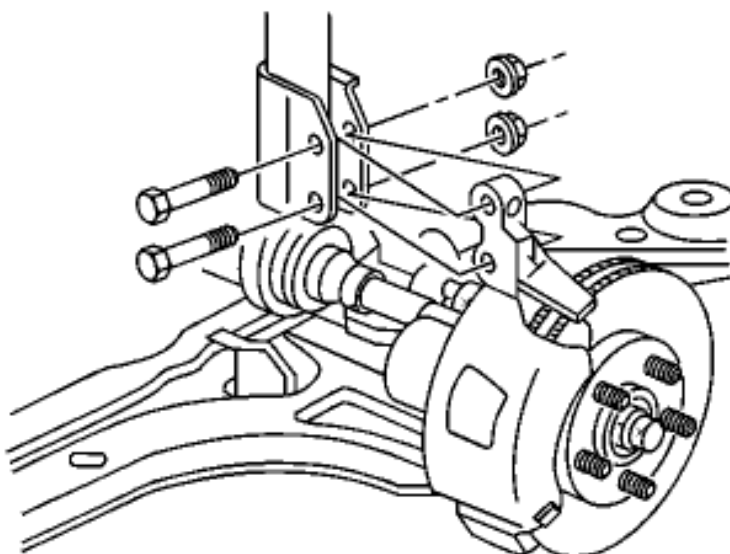

fig. 3
4. Unthread and remove the lower mounting bolts from the strut. The factory bolts have a spline shaft and may need to be tapped out of place. Care must be taken when doing so to not damage the threads (fig. 3). Vehicle manufacture cautions the reuse of these bolts only if the fasteners are free from rust or corrosion and develops 3 Nm (27 inch/lbs.) of torque or drag before nut is fully engaged on bolt threads. If the bolt/nut meets these requirements, the parts may be reused.
3. Lift the hub assembly and align the lower strut mounting tabs with the spindle and reinstall the previously removed bolts or new bolts if originals did not meet requirements in step 4 of REMOVING THE STRUT. Torque to 120 Nm (89 ft./lbs.) (fig. 3).